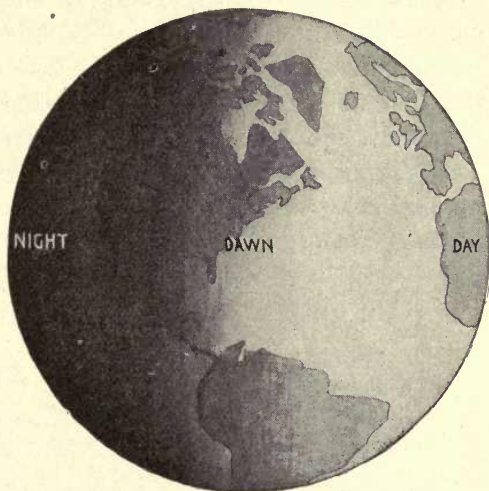

FIG. 16.—The Succession of Day and Night
**Structure of the Earth.** — For convenience of study, the earth is divided into several parts or spheres: (1) the outer, gaseous envelope, or *atmosphere*; (2) the liquid envelope, the water or *hydrosphere*; (3) the solid rocky part, the *lithosphere*; (4) the center, the *nucleus* or *centrosphere*.
**Rotation.** — The earth turns once on its axis every twenty-four hours (Figure 16). As this rotation takes place, the sun is shining upon one half of the earth's surface, leaving the other half in darkness. The effect to us is that of the sun rising at one point in the horizon, moving over the sky, and setting at some point in the horizon nearly opposite. In reality we are being turned *into* and *out* of the sunlight. The same effect is noticed when riding on a swiftly moving train. The train seems